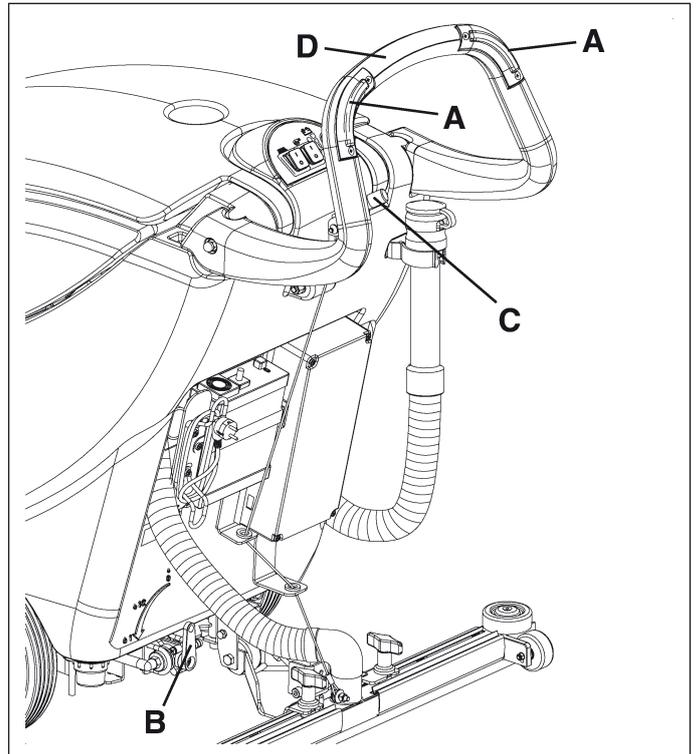

Figure 18
2. While keeping both hands on the handlebar (D, Fig. 18), move the machine and start scrubbing/drying the floor.
When the machine is stopped, stop the brush/pad by releasing the switches (A, Fig. 18).
Before lifting the brush/pad, stop its rotation by releasing the switches (A, Fig. 18).
3. If necessary, adjust the solution flow sent to the brush/pad by turning the lever (B, Fig. 18).
2. Lift the squeegee by pushing the lever (C, Fig. 18) upwards.